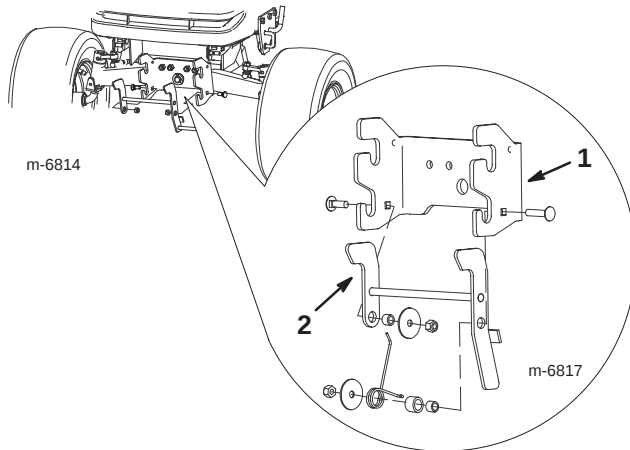

Figure 7
2. Install the new release lever on the hitch using the hardware as shown in Figure 7.